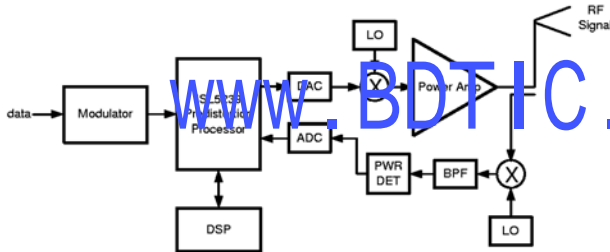

FIGURE 1. SYSTEM OVERVIEW
The ISL5239 is a full-featured digital pre-distortion part featuring a high-performance lookup-table based pre-distortion (PD) processing unit. It includes an interpolator for upsampling and supports all varieties of upconversion architectures with a programmable correction filter for equalization including both $\sin(x)/x$ correction and removal of frequency response imbalance between quadrature paths. It also features gain, phase, and offset compensation for direct upconversion, digital IF output for heterodyning, and input/output capture memories with internal/external triggering capabilities to facilitate closed-loop feedback processing. System implementation is typically as shown in Figure 1. Although the power detect feedback is shown with one Analog to Digital Converter (ADC), coherently demodulated feedback signals LO configurations with 1 or 2 ADC's are also supported.